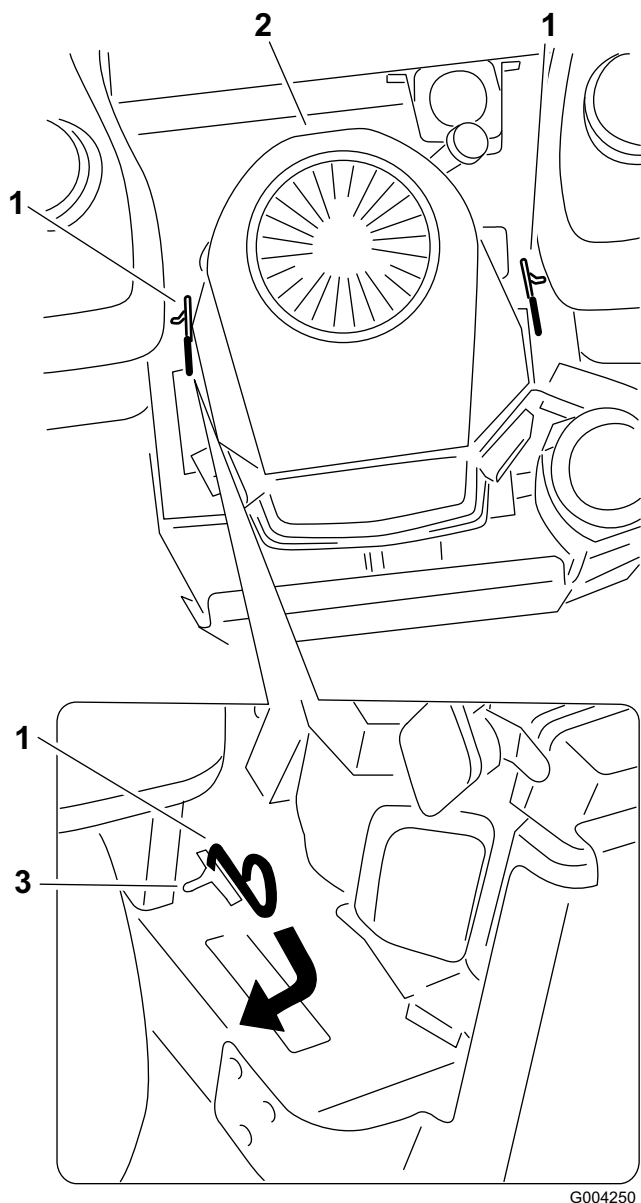

Figure 19
3. Pull the two bypass levers rearward and push them to the outside into the slot to lock them into place. (Figure 19).
Push each bypass lever to the inside and push them forward (Figure 19).